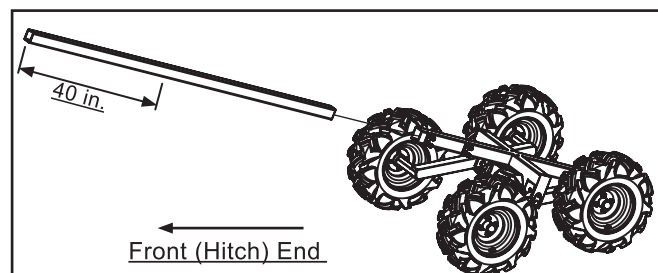

Fig. 8
Step 9: Install the Frame Extension Tube. Insert the Frame Extension tube (17) into the Main Frame from the Front (Hitch) End (Fig 8). The two through holes for the Swivel Hitch Assembly (15) should be vertical. With a tape measure, insert the Frame Extension tube (17) so that the distance from the end is 40 in. (100cm) to the end of the Main Frame (1). Back off the lock nuts on the M12x50mm bolts on the Main Frame, tighten the bolts, then lock the bolts in place using the lock nuts.